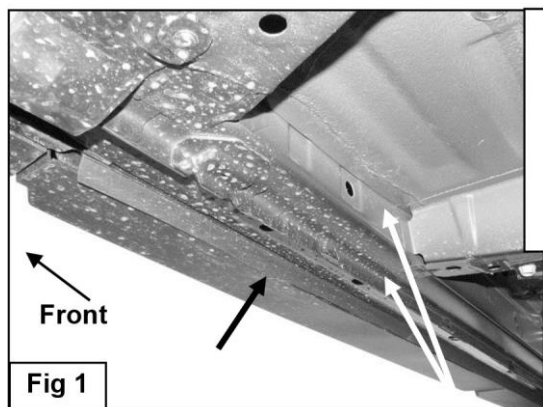

Fig 1
1. Start installation on the passenger side of the vehicle. Locate and remove the (2) rubber plugs in the bottom of the outer frame channel closest to the front wheel opening, (Figure 1).